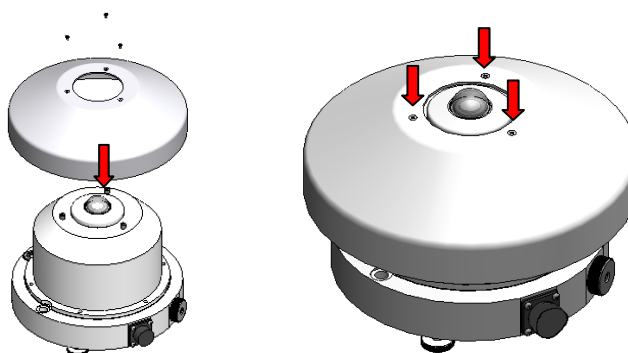

Figure 5-5. MS-700 Sun Screen
When the Sight Spot is not irradiating the target properly as shown on Figure 5-5, adjust the Sun Sensor adjusting screws (on behind the Sun Sensor) (C) and (B) in clockwise direction.